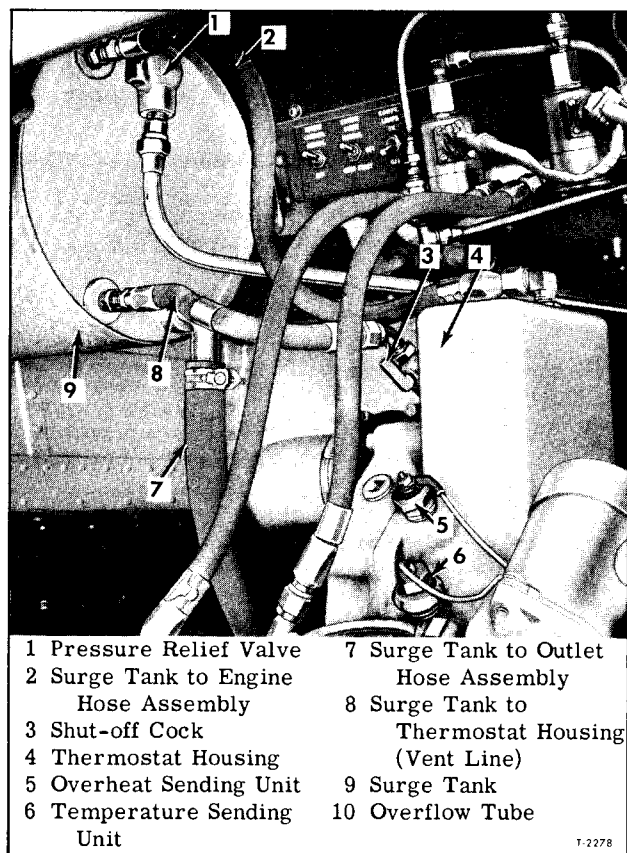

Figure 3—Surge Tank, Thermostat Housing, and Lines
2. Open shut-off cock in vent line at top of thermostat housing at front of engine (fig. 3).
7. After all lines have been bled, close vent line shut-off cock at fitting in top of thermostat housing (fig. 3). Closing vent line shut-off cock during operation is necessary to prevent water flow through surge tank and radiator with closed thermostats to insure benefits of the Posi-Temp cooling system.